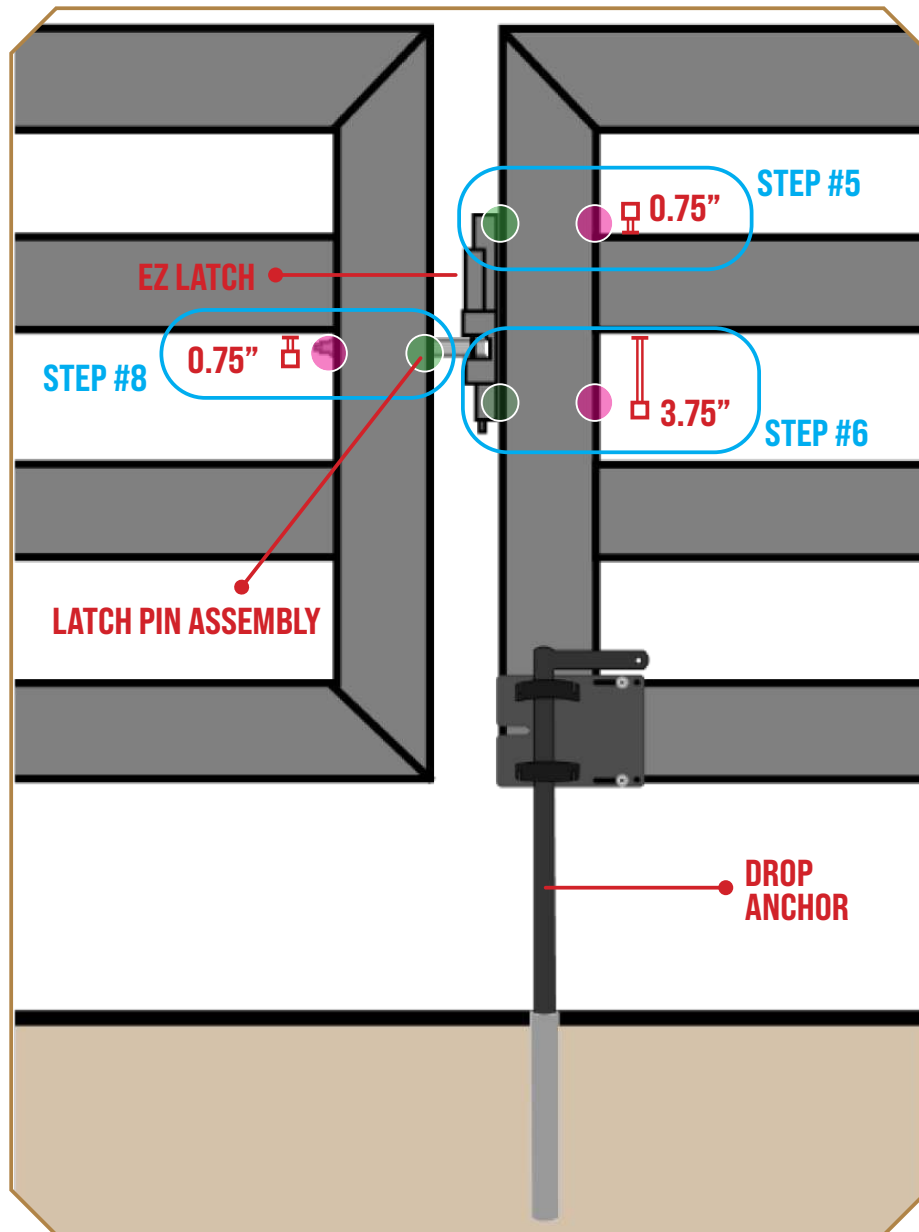

Figure 2
2. Drill three $2\frac{1}{32}$ " holes (1 hole on the pin-gate; 2 holes on the ground-anchor gate) using a step drill. Reference the pink circles on Figure 2 for placement.
3. Drill three $1\frac{3}{32}$ " holes (1 hole on the pin-gate; 2 holes on the ground-anchor gate) using a step drill. Reference the green circles on Figure 2 for placement.